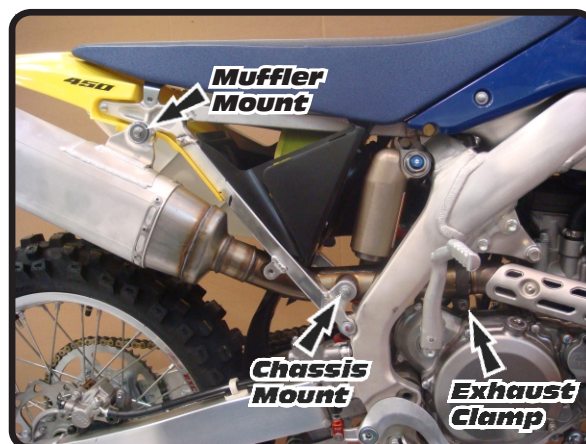

Fig. 2
- Remove stock muffler (see Fig. 2 for fastener locations).